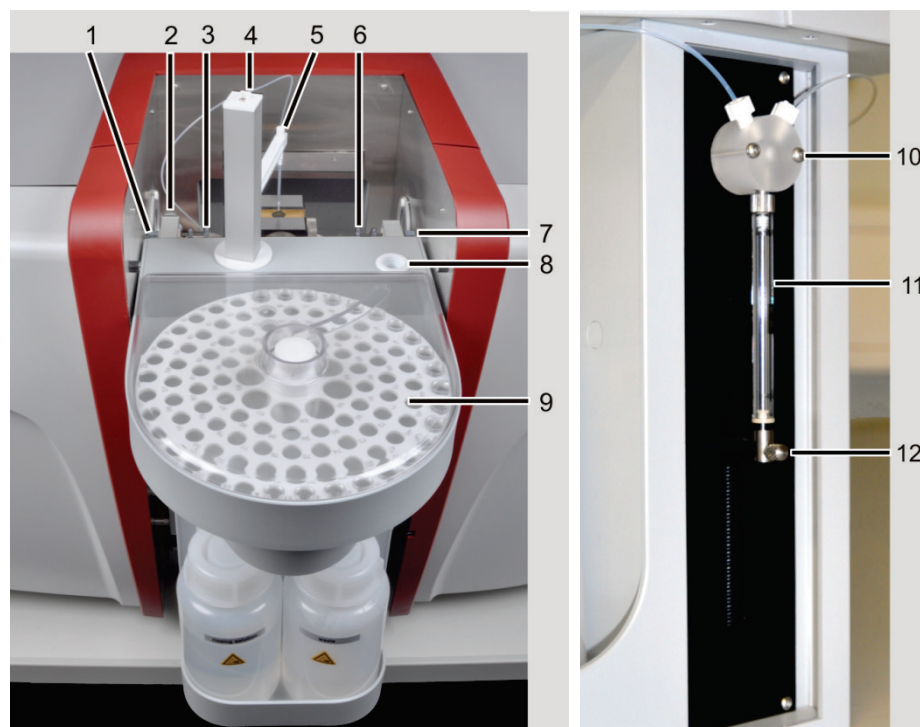

Fig. 44 Installed AS-GF
2. Install the tube guide (item 5 in Fig. 44) to the autosampler arm of the AS-GF and attach using the lock screw.
3. Screw the dosing tube into the right opening of the T valve (item 10 in Fig. 44) on the dosing unit. Feed the dosing tube through the tube holder on the back of the autosampler and on the autosampler arm. Insert the dosing tube into the tube guide (item 5 in Fig. 44) until the tube end protrudes approx. 8 mm from the bottom of the tube guide; attach the tube using a clamp nut.
7. Hang the AS-GF into the receptacles of the sample chamber (items 1 and 7 in Fig. 44). Check whether the autosampler is horizontally aligned. If necessary, adjust the position of the autosampler using the depth-adjustable stop.